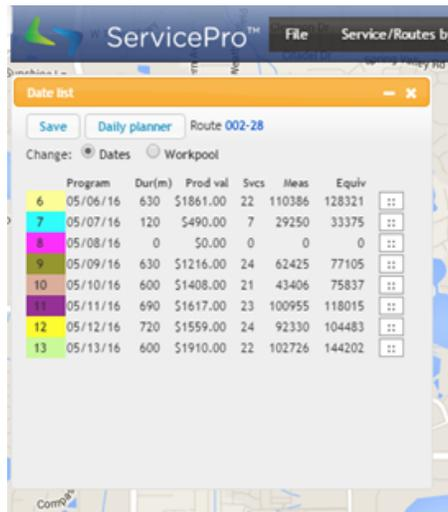

Figure 18
1. After the routing is complete select a date from the date list then click “Daily Planner” option next to the save button in the “Date List” (Fig. 18).